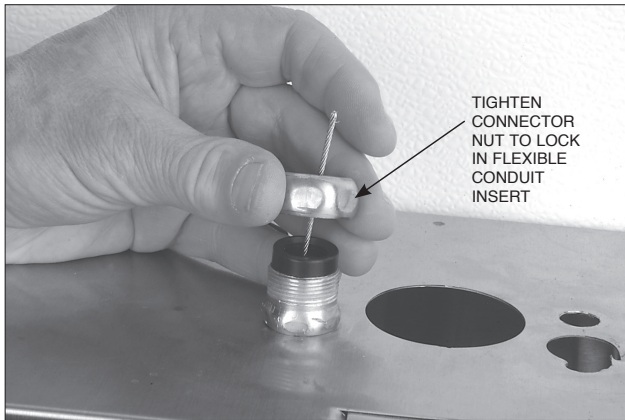

FIGURE 5-56
5. Tighten the nut to the connector body, locking the flexible conduit insert in place. See Figure 5-56.